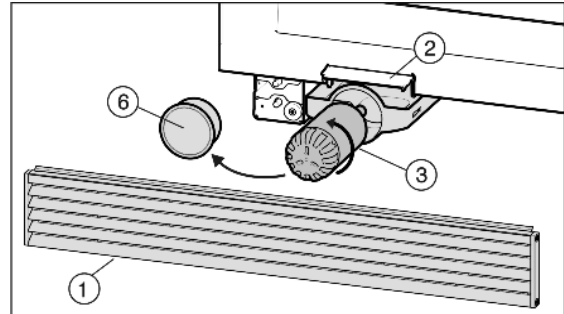

Fig. 8
- ▶ lift the ventilation grid *Fig. 8 (1)* up and pull out.
- ▶ Open the filter change flap *Fig. 8 (2)*.
- ▶ Pull the water filter carriage *Fig. 8 (3)* out.
- ▶ Remove the filter cover *Fig. 8 (6)*.
- ▶ Turn the water filter *Fig. 8 (3)* about 100° anti-clockwise and pull out.